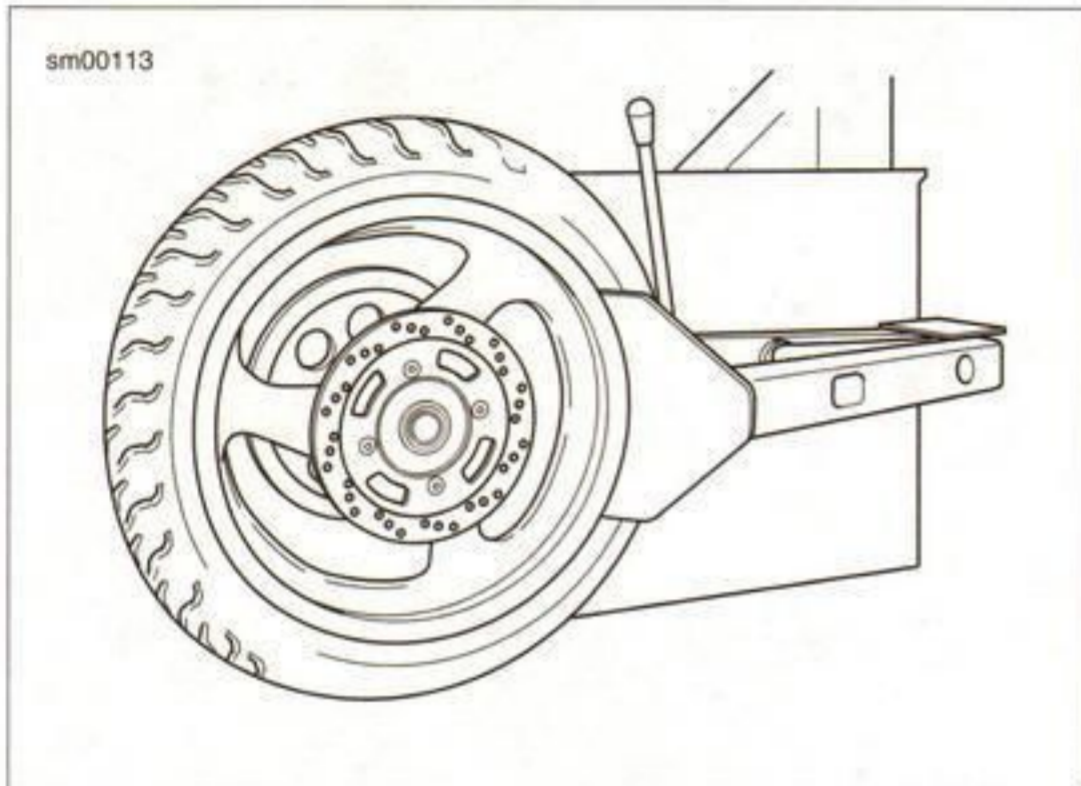

Figure 2-10. Loosening Beads from Rim Flange
3. See Figure 2-10. Use the tire machine to loosen both tire beads from the rim flange.